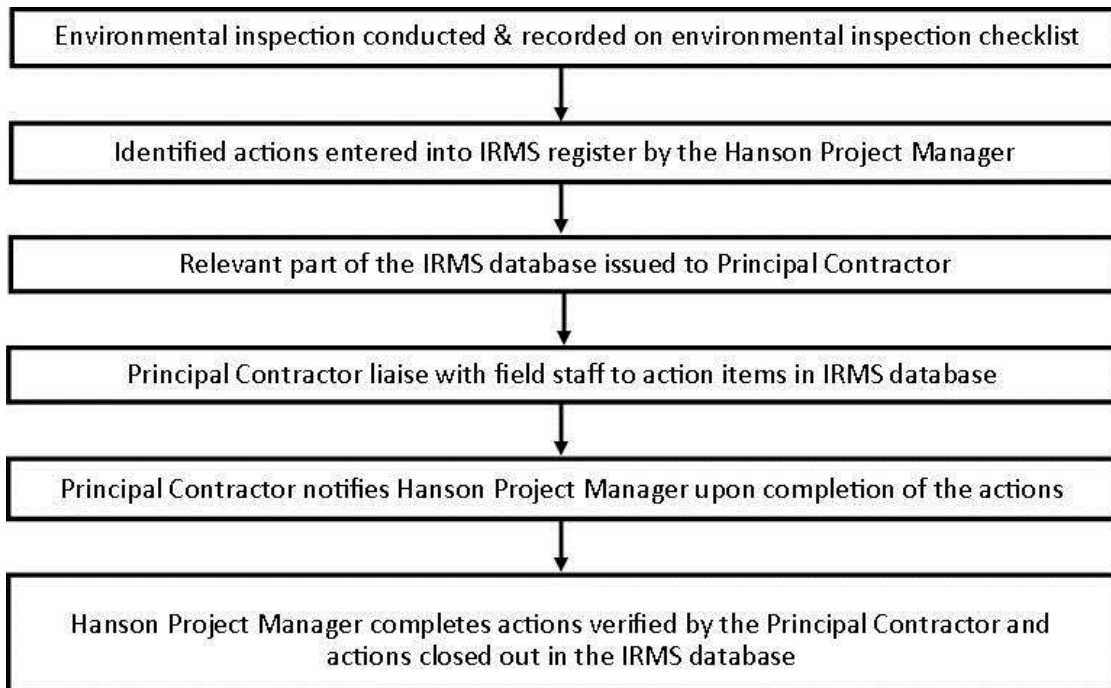

Figure 2: Procedure for Environmental Inspection
- The PM conducts formal inspections of the Project. An environmental inspection checklist is developed to ensure compliance with the DMP and that conditions nominated in license/permits/approvals are assessed. Actions arising from environmental inspections are recorded, tracked, communicated and closed out in accordance with the procedure detailed in Figure 2 below.